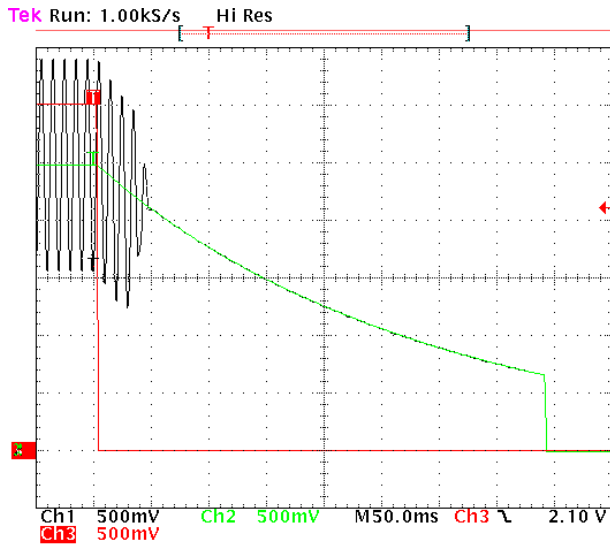

Figure 40. Turning-Off Time/ $V_p = 5.0$ V
– 385 ms later, the DC signal will reach 0.7 V due to exponential discharge of the bypass voltage. It is then tied to Ground as shown in Figure 40.